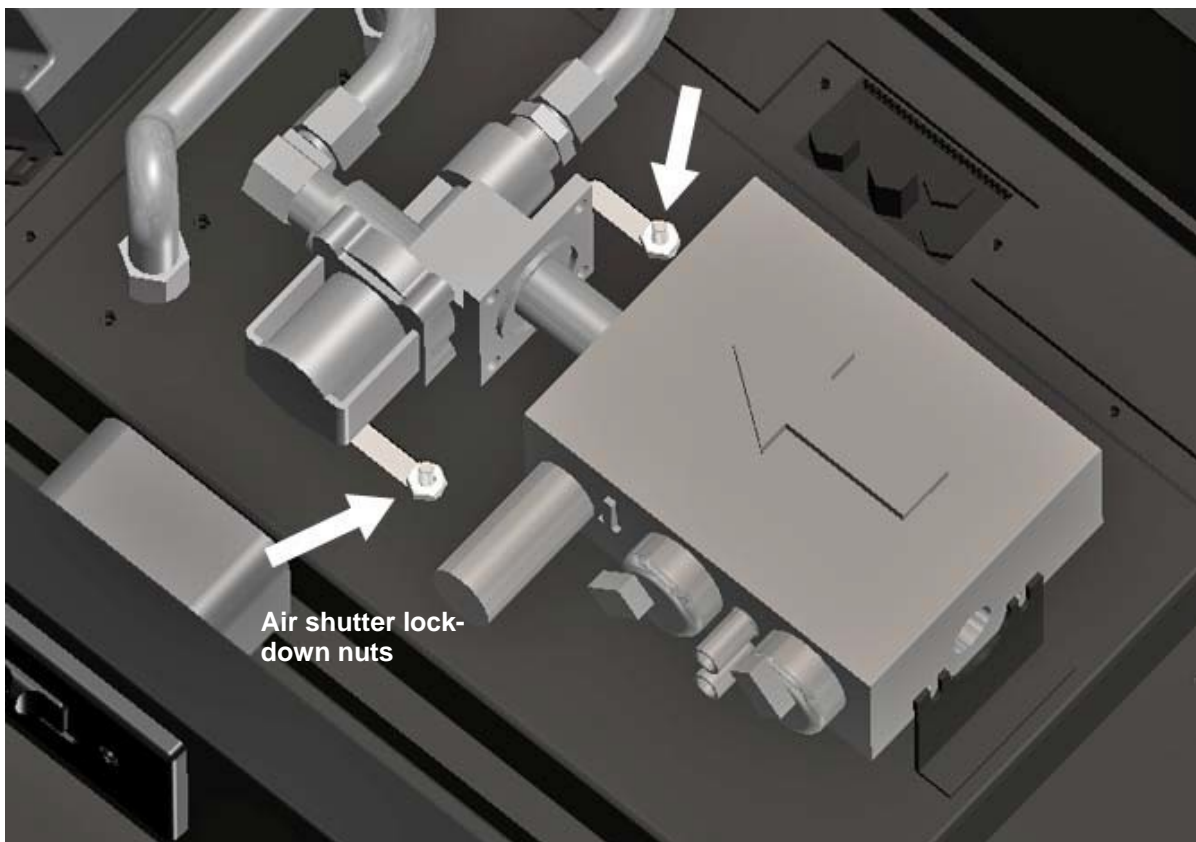

Figure 1
4. From underneath the stove loosen (but do not remove) the nuts that lock the air shutters in place. Adjust the air shutters to a preliminary fully opened position (for LP) by loosening the adjusting stud lock nuts underneath the stove. Moving the adjusting stud towards the valve opens the shutters, and away closes the air shutters. When the shutters are in the desired initial position tighten the locking nuts finger tight. See *Figure 1* below.